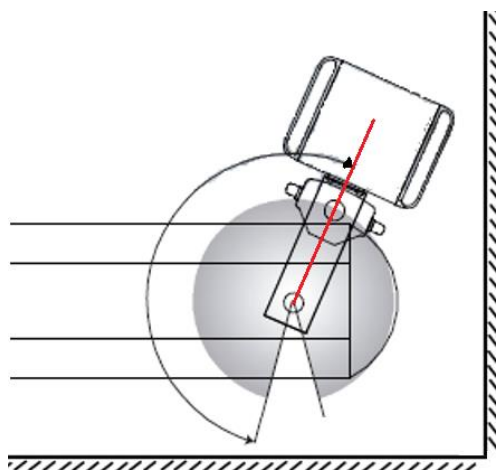

Fig.20 Fixing the right-hand pivot stop of a column with extension arm.
- Bring the column to the desired new maximum position giving sufficient clearance (the space of a fist) as shown in figure 20.